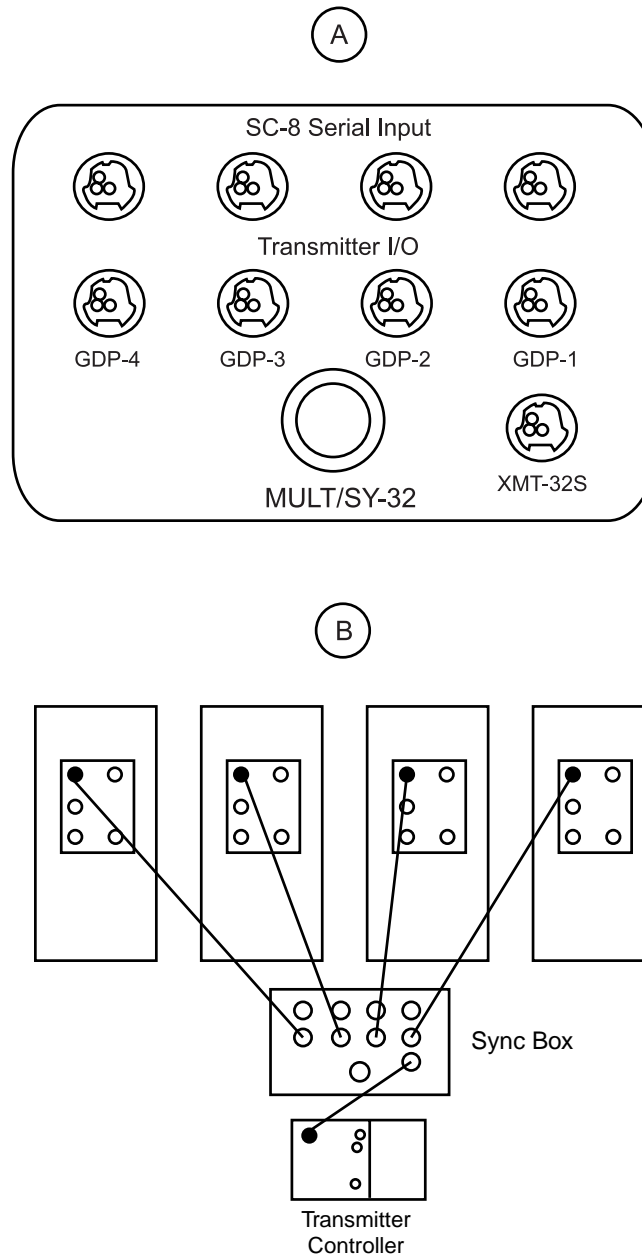

Figure 6.6 (a) MULT/SY-32 Synchronization Box (b) Synchronizing a system of multiple receivers with the MULT/SY-32 Synchronization Box
1. Connect all GDP-32IIs to be synchronized to the Transmitter I/O port on the MULT/SY-32 Sync Box (Figure 6.6(a)), as shown in Figure 6.6(b) using synchronization cables.